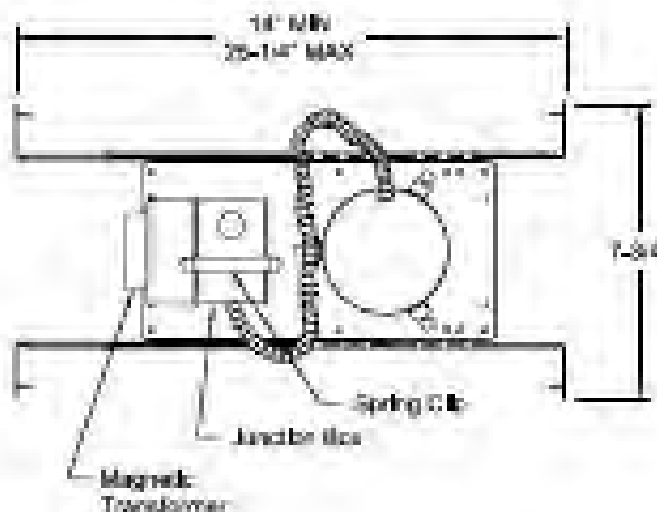

Figure 2
3. Connect control (AC/120V supply wires) to Junction Box (See Fig. 2) using appropriate connector.
4. Connect Black supply wire from Transformer (See Fig. 2) to Black supply wire (120V) in Junction Box.
7. Tuck all wires carefully and completely into Junction Box. Lock Cover with Spring Clip (See Fig. 2) on top.